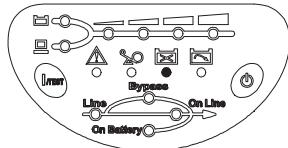

Fig 4-6 Battery Replace
- ✓ BATTERY REPLACE: This LED function is to alert user that the batteries should be replaced. When the microprocessor in the UPS detects a battery fault, the UPS alarm will give out three beeps. Each beep lasts for 0.5 seconds and interrupted by an interval of 0.5 seconds. After the initial 3 beeps, the alarm will continue to sound every one hour. Shown as fig 4-6.